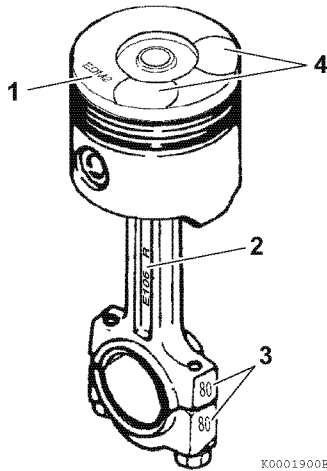

Figure 6-97
- The piston and connecting rod must be installed with the correct orientation. When installed correctly, the identification mark (1, **Figure 6-97**) stamped into the top of the piston will face the open side of the crankcase. The connecting rod match marks (3, **Figure 6-97**) and the piston valve pockets will face the injection pump side of the engine.
- Carefully install the piston and rod assembly. The identification marks stamped into the top of the piston (1, **Figure 6-97**) and connecting rod beam (2, **Figure 6-97**) will be facing the open side of the crankcase. The connecting rod match marks (3, **Figure 6-97**) and the piston valve pockets (4, **Figure 6-97**) will face the injection pump side of the engine.